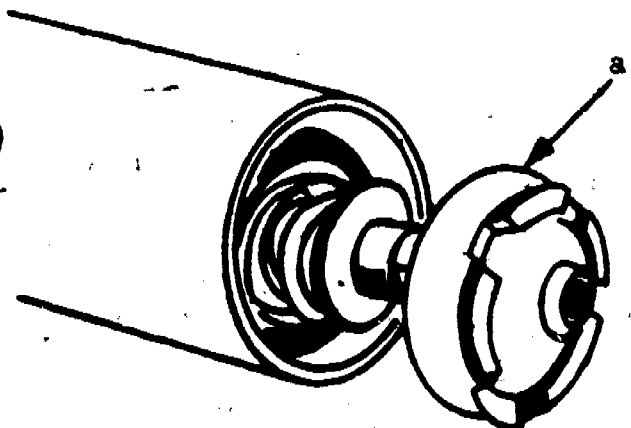

Figure 2.
- STEP 3. Unscrew and remove cover (item a in Figure 2).